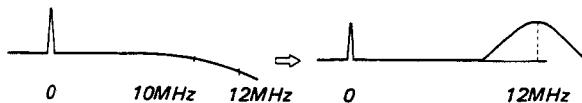

Fig. 4-3
3. Adjust output waveform peak to 12MHz with CV102 of the BA board as shown in Fig. 4-3.